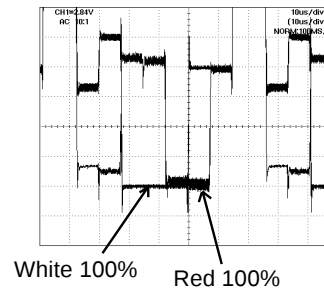

Fig. 2-4
16. Press the VOL. UP/DOWN button on the remote control until the red color level is adjusted to $100\% \pm 10\%$ of the white level. (Refer to Fig. 2-4)